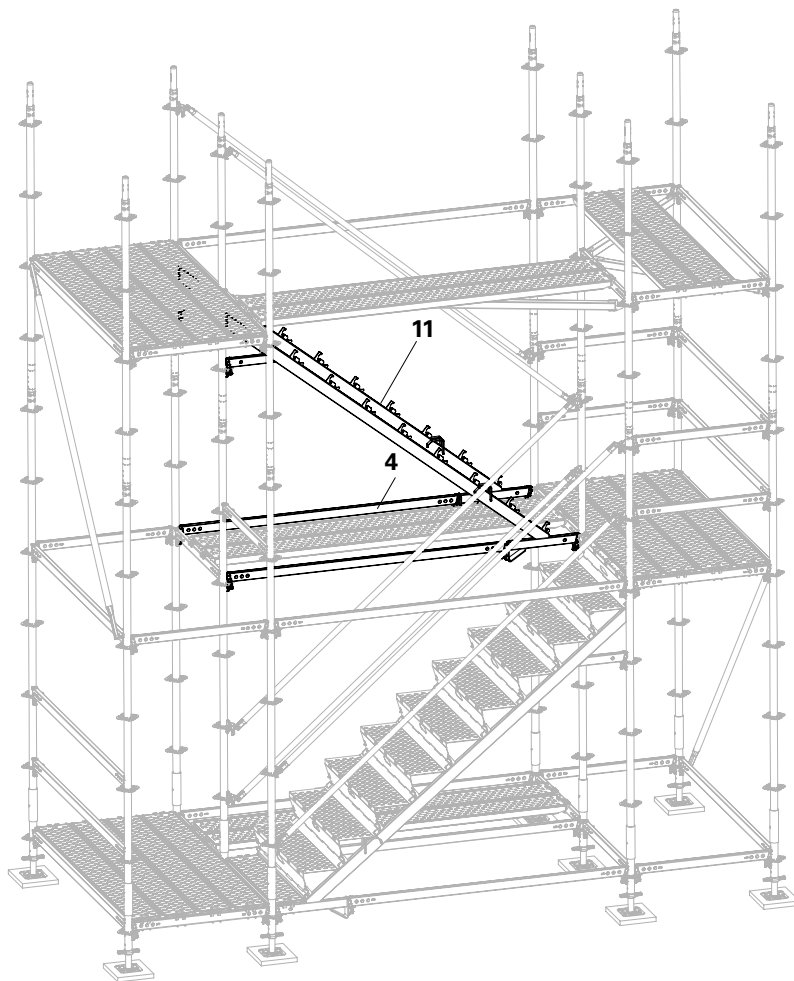

Fig. A3.06
2. Brace with two Horizontal Ledgers UH-2 200 (**4**). (Fig. A3.06).